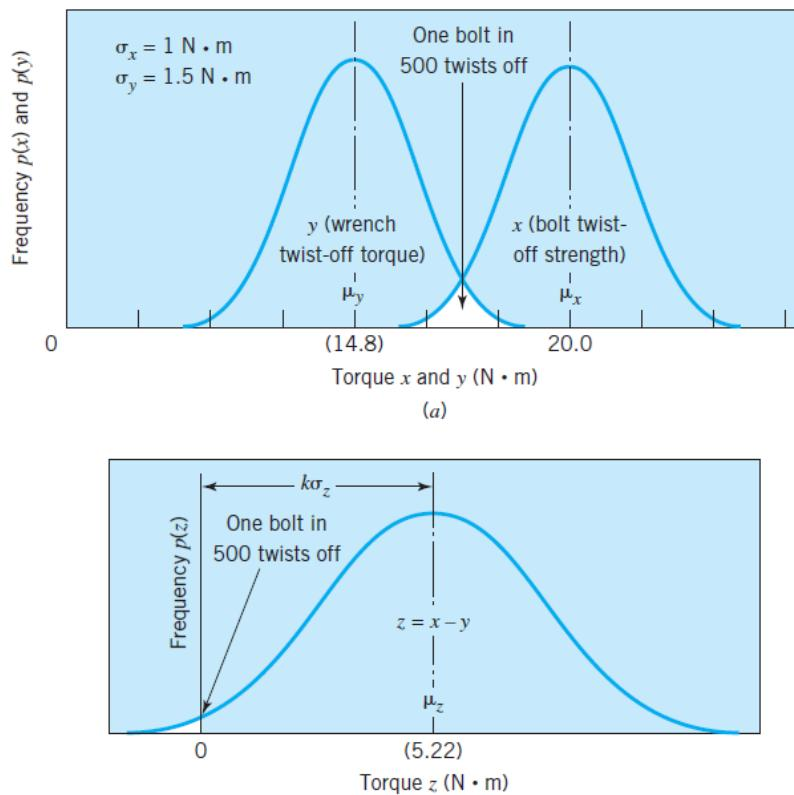

Figure 1: Q1
- Q1.** Bolts installed on a production line are tightened with automatic wrenches. They are to be tightened sufficiently to yield the full cross section in order to produce the highest possible initial tension. The limiting condition is twisting off the bolts during assembly. The bolts have a mean twisting-off strength of 20 Nm with a standard deviation of 1 Nm. The automatic wrenches have a standard deviation of 1.5 Nm. What mean value of wrench torque setting would result in an estimated 1 bolt in 500 twisting off during assembly (see Figure 1)?